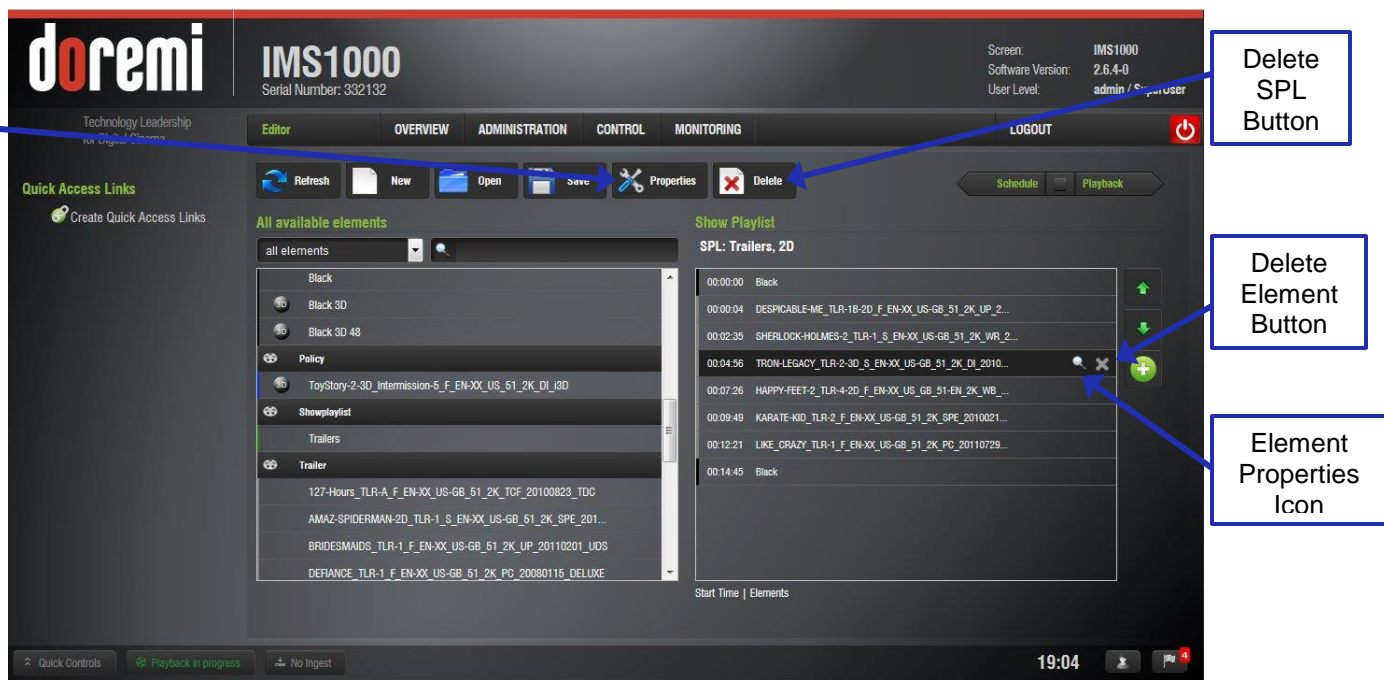

Figure 234: SPL Opened
- The SPL's content will be displayed on the right side of the GUI (Figure 234).
- Remove elements by selecting them and then clicking the X button (Figure 234).
- To view the properties of an SPL, open the SPL and click the SPL Properties button (Figure 234).
- To view the properties of a particular CPL, highlight the CPL and click on the Properties icon that appears on the right (Figure 234).
- Once the SPL is opened, delete it by clicking on the Delete SPL button (Figure 234).
- To view the properties of any element in a Show Playlist, select the element from the right side of the GUI. Highlight the selected item and click on the Element Properties button that appears on the right (Figure 234).
- Click the Show Playlist Properties button (Figure 234).